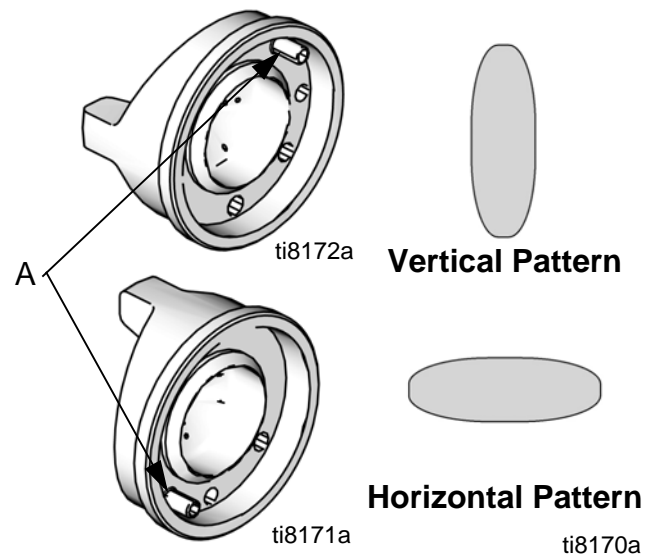

FIG. 9: Position Air Cap
Air caps are factory-set with the alignment pin (A) set to a vertical spray pattern. To change the air cap to a horizontal spray pattern, use a 1/16 in. hex wrench to unscrew the alignment pin (A) and relocate it to the horizontal spray pattern hole. When relocating the pin use low strength thread locker. Torque to 1.5-2.5 in-lb (0.2-0.3 N•m). **Do not overtighten.** Refer to FIG. 9.